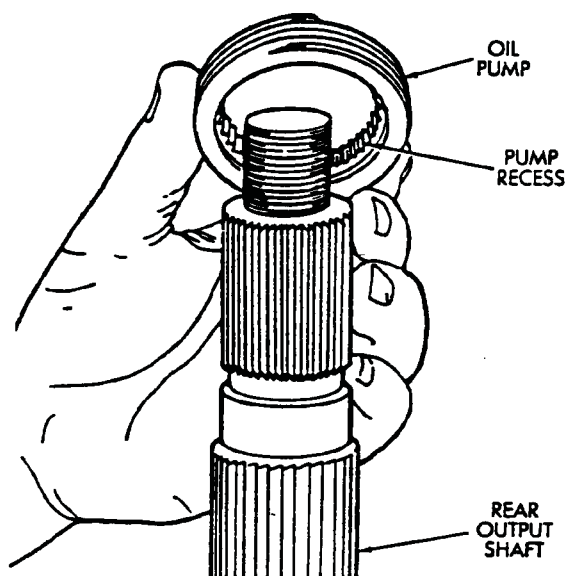

Fig. 4-63 Install Oil Pump
62. Install the oil pump on the rear output shaft. Recessed side of pump faces down. (Fig. 4-63.)